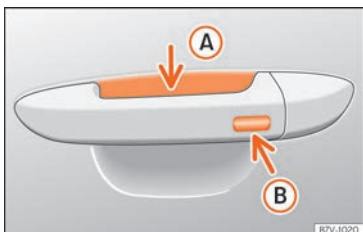

Fig. 52 Driver door lever: sensor surfaces.
»» Fig. 52
- Touch the sensor surface »» Fig. 52 (B) on the outside of the door handle. All turn signals flash once.
To close all the electric windows and the sunroof using the **comfort function**, keep a finger for a few seconds on the locking sensor surface >>> Fig. 52 ② of the door handle until the windows and roof have closed.